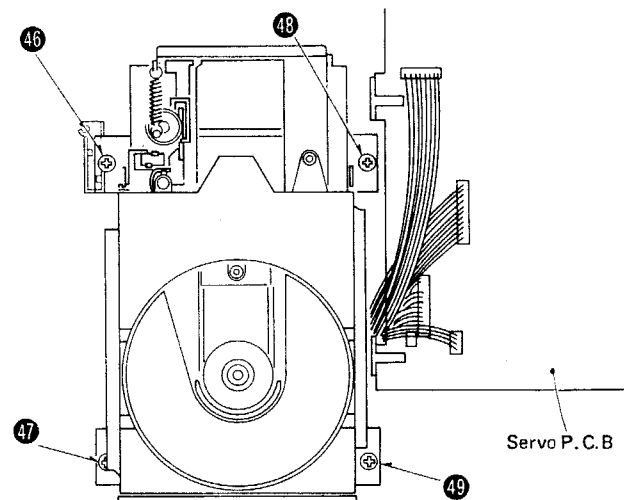

Fig. 15
2. Remove the 4 setscrews [Fig. 15: ④⑥ ~ ④⑨] of traverse unit. Screws ④⑥ ~ ④⑨ are red.
1. Remove the 4 setscrews [Fig. 15: ④⑥ ~ ④⑨] of traverse unit.